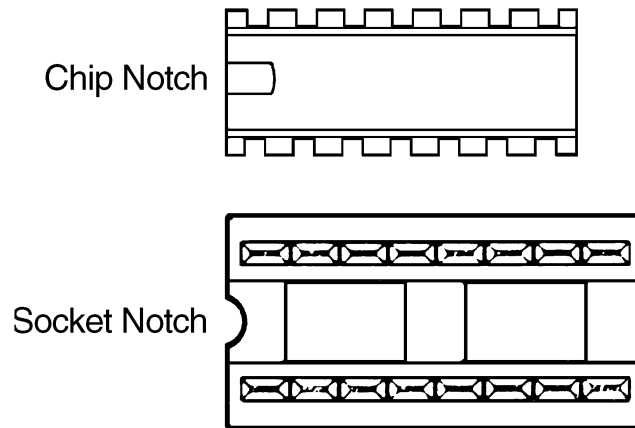

Figure 3-2 Location of Chip and Socket Notches
6. Align the notch on the PROM with the notch in the socket (Figure 3-2).